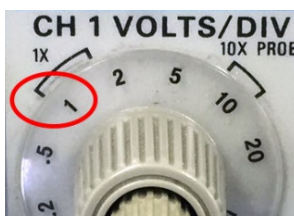

Figure 2
1. Turn the oscilloscope on by pressing the **POWER** button (5).
2. *Setting X-Y Mode*: Turn the *time base* (also referred to as *sweep*) knob (18) fully counterclockwise to **x-y** and turn both **VOLTS/DIV** knobs (12) to **1** volt/div (“1” on the dial should be aligned with “1x” as shown circled in Figure 2 below).